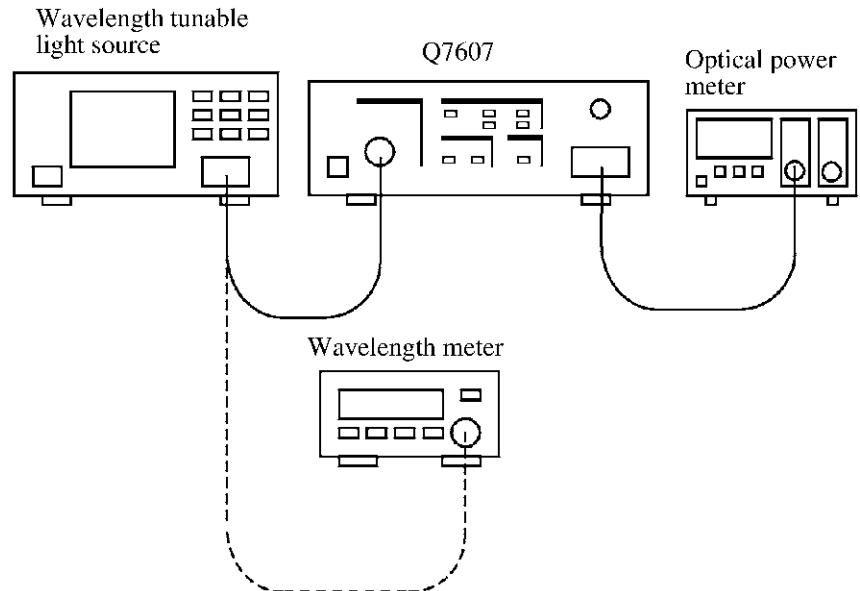

Figure 4-3 Setup for Measuring a FSR Measurement
1. Connect equipment as shown in Figure 4-3.